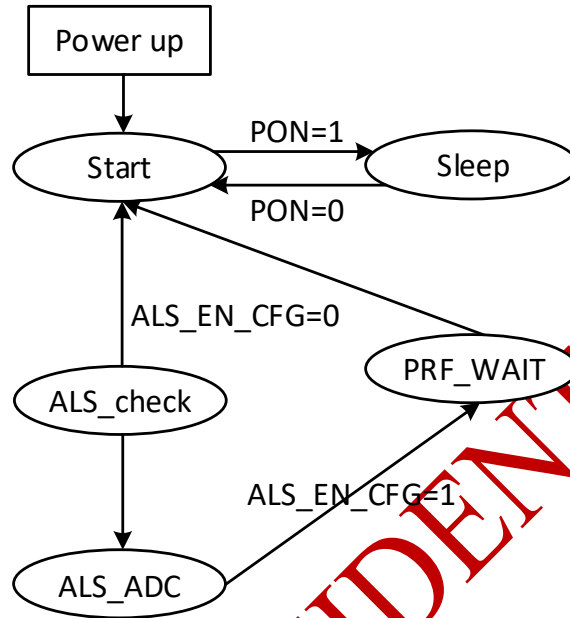

Figure2 State Machine Diagram
The running state machine of ALS is as shown in Figure2. The HX3229-39B has mainly three modes of operation. In Sleep mode: configured by the Power Down (PD) register. All circuits except I2C are turned off and consume very low current.